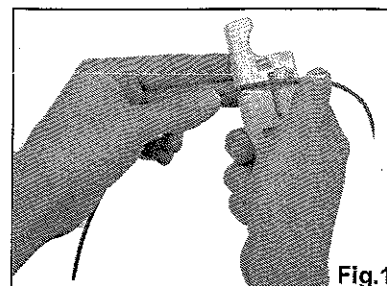

Fig.1
2. Use the sizing channels on the top of the tool to determine which slot on the tool to use. Starting with the smallest channel (#5) find the first slot the tube fits easily and fully seats into, then use the corresponding channel for your access. (Fig.1)